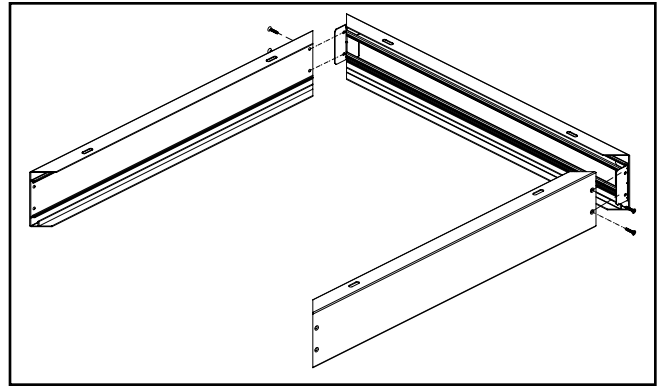

Figure 14.
- C2. Join the type "B" rail with the type "A" rails by inserting the protruding leg of each L-brackets into the corresponding slot on the type "A" rail. Use 4 of the included screws to secure the type "A" rails to the type "B" rail. (Figure 14.)